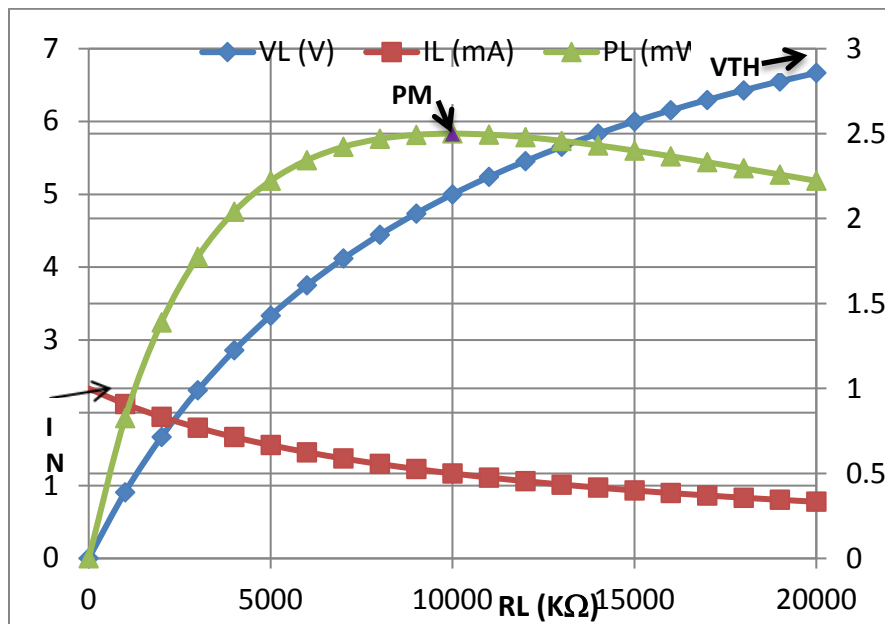

Figure 7-3: Estimate P_{max} , V_{TH} , I_N from a graph ($V_{TH} = 10V$, $I_N = 1\text{ mA}$, $R_{th} = 10\text{ k}\Omega$)
2.2.5 Estimate the Norton current from the I_{Load} vs. R_{Load} graph and call this value $I_{N\text{ Measured}}$. Mark this value on the printout of the graph. Record this value in a data table and compute the percent error compared to the predicted value. Your graphs should look similar to Figure 7-3, this is not your data.